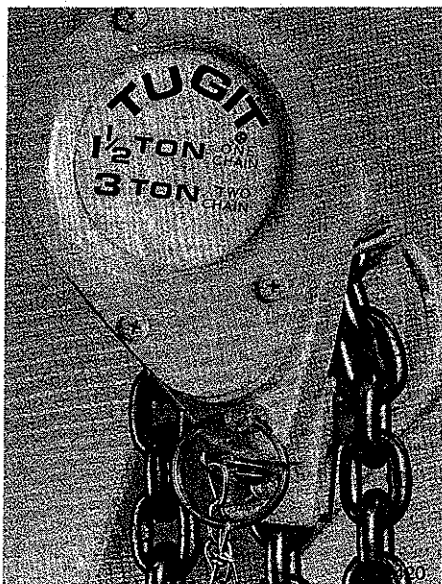

Figure 8-3.
a. To convert hoist from 3 ton Double Line to 1-1/2 ton Single Line, position hoist as shown in Figure 8-3.